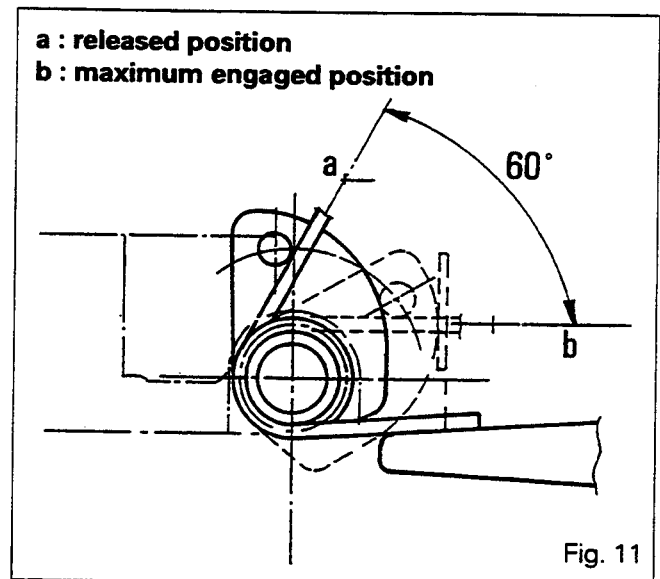

Fig. 11
56. Adjust the mechanism (31) with the adjusting nut, so that the cam displacement, from rest position to maximum position, is 60° (Fig. 11).